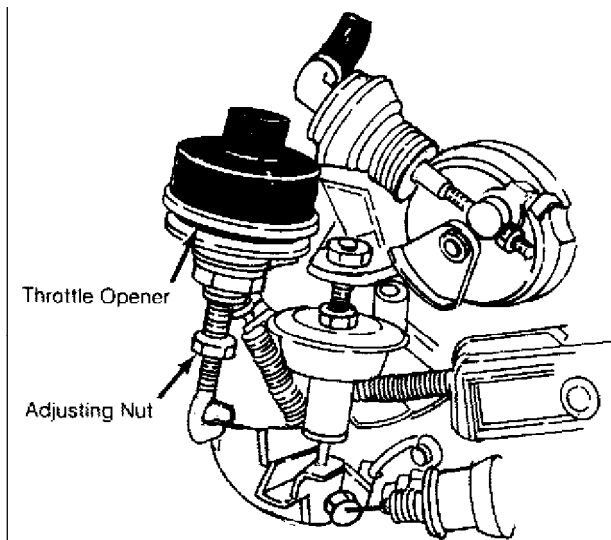

Fig. 10: Throttle Opener Adjustment (A/C Models Only)
4) Throttle opener should operate and engine speed should increase to 1150-1250 RPM in Neutral. If engine speed is not to specification, turn adjusting screw. See Fig. 10.